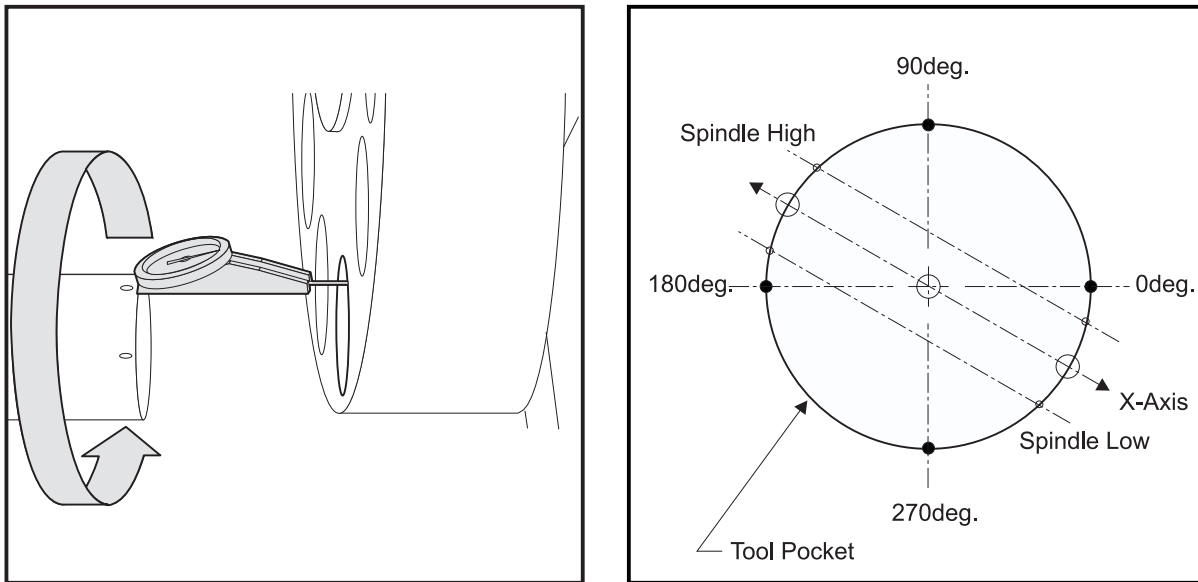

Figure 3-3. Turret Pocket Alignment
3. Mount the spindle alignment tool onto the spindle retainer ring with the dial indicator mounted to the end of the tool. Refer to Figure 3-3.